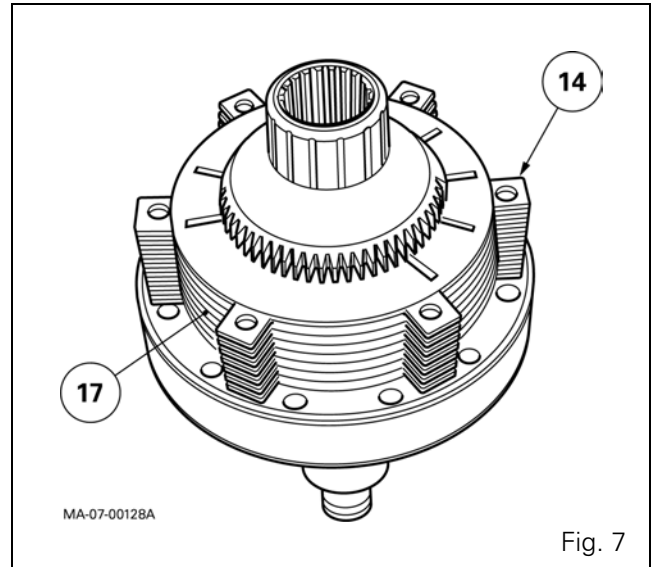
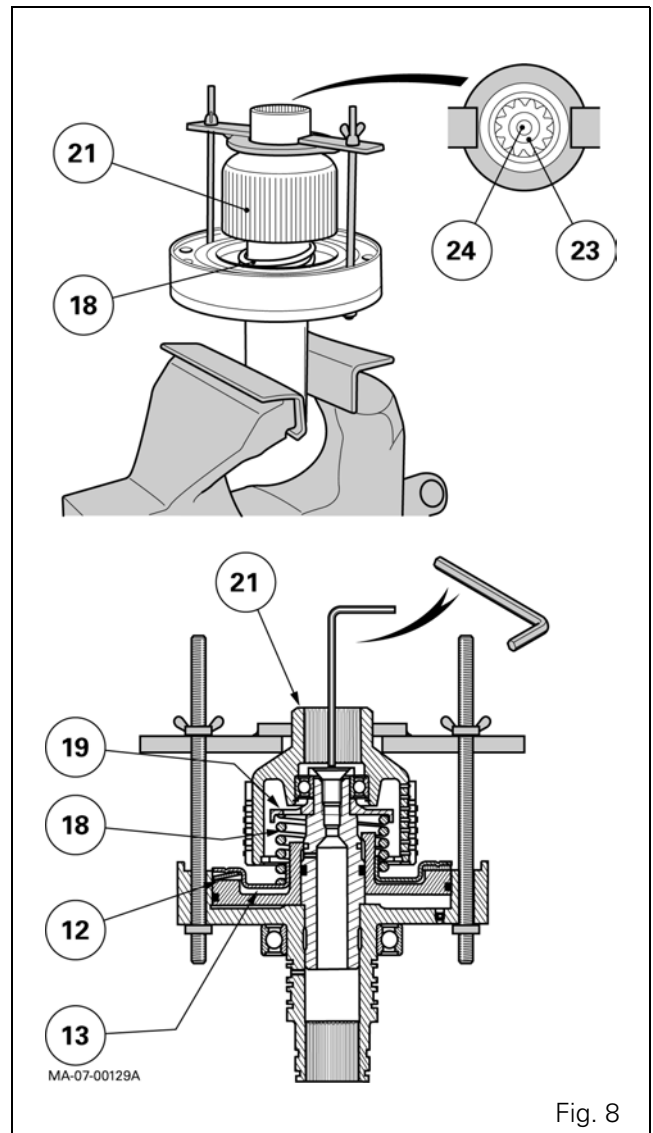

Fig. 7
Fig. 8
- the bell housing (15);
- the discs (17) and intermediate plates (14) (Fig. 7);
- the drive gear (28)
- 26. Secure the front part of the clutch unit (9) in a vice fitted with protective jaws.
- 27. Remove the screw (24), using a makeshift tool to hold back the spring (18) (Fig. 8 and § E).
Remove (Fig. 8):